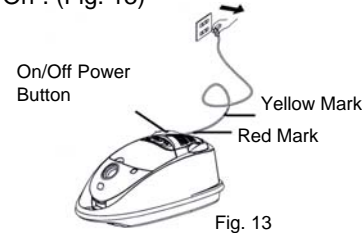

Fig. 13
2. Press the Power On/Off button located on the unit to turn the vacuum cleaner "On". (Fig. 13)
**Note:** Once all attachments are in place, unwind a sufficient length of cable and insert the plug into the wall outlet. A yellow mark on the power cord shows the ideal cable length. Don't pull the power cord beyond the red mark. (Fig. 13)
Your vacuum cleaner includes a power cord which is automatically retractable. To extend your power cord, pull from rear and extend to desired length up to the yellow mark on the power cord. (Fig. 13) Do not pull the power cord beyond the red mark. When vacuuming is finished, first switch off power and disconnect plug from electrical outlet. Then press on cord rewind button. If the cord does not fully retract, pull it out again and then press on cord rewind button.